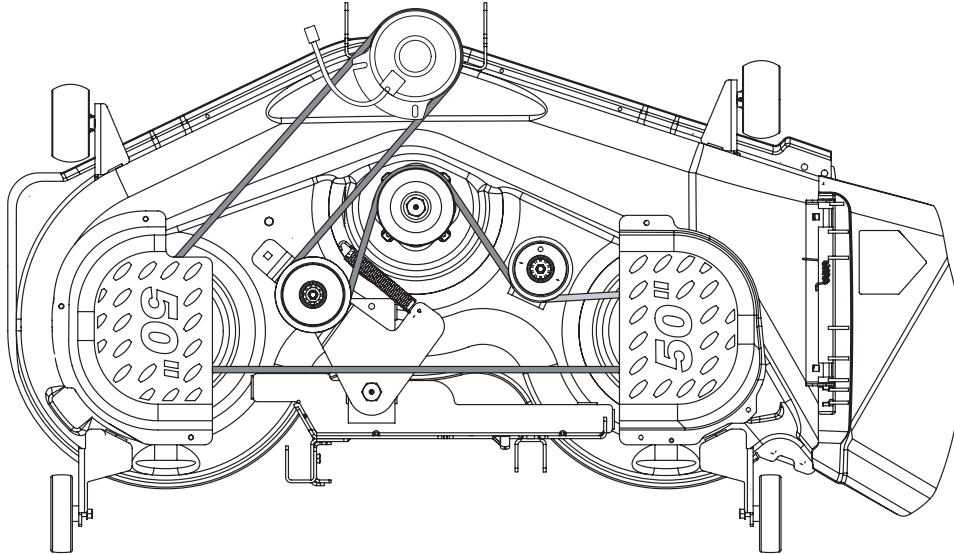

Figure 22
- Route the new belts (deck belt first). See Figure 22.